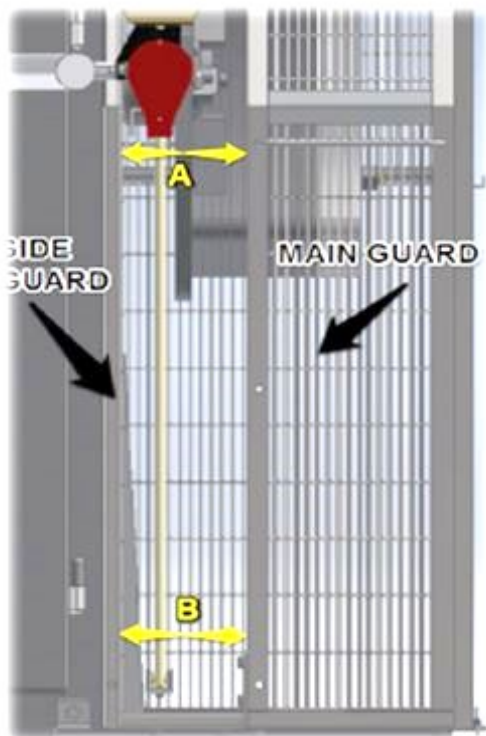

Figure 2
4.2 Check the following dimensions shown in figures 2 to 5 are within spec: